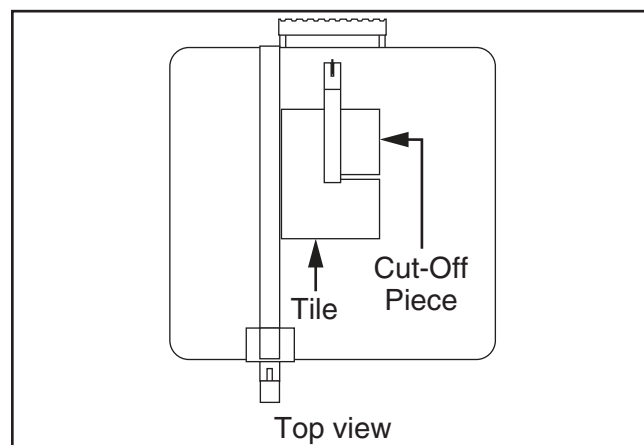

Figure 35. Second cut complete.
12. Turn saw **ON** and make second cut, cutting until contacting first cut (see **Figure 35**). When contacted, cut-off piece should separate.